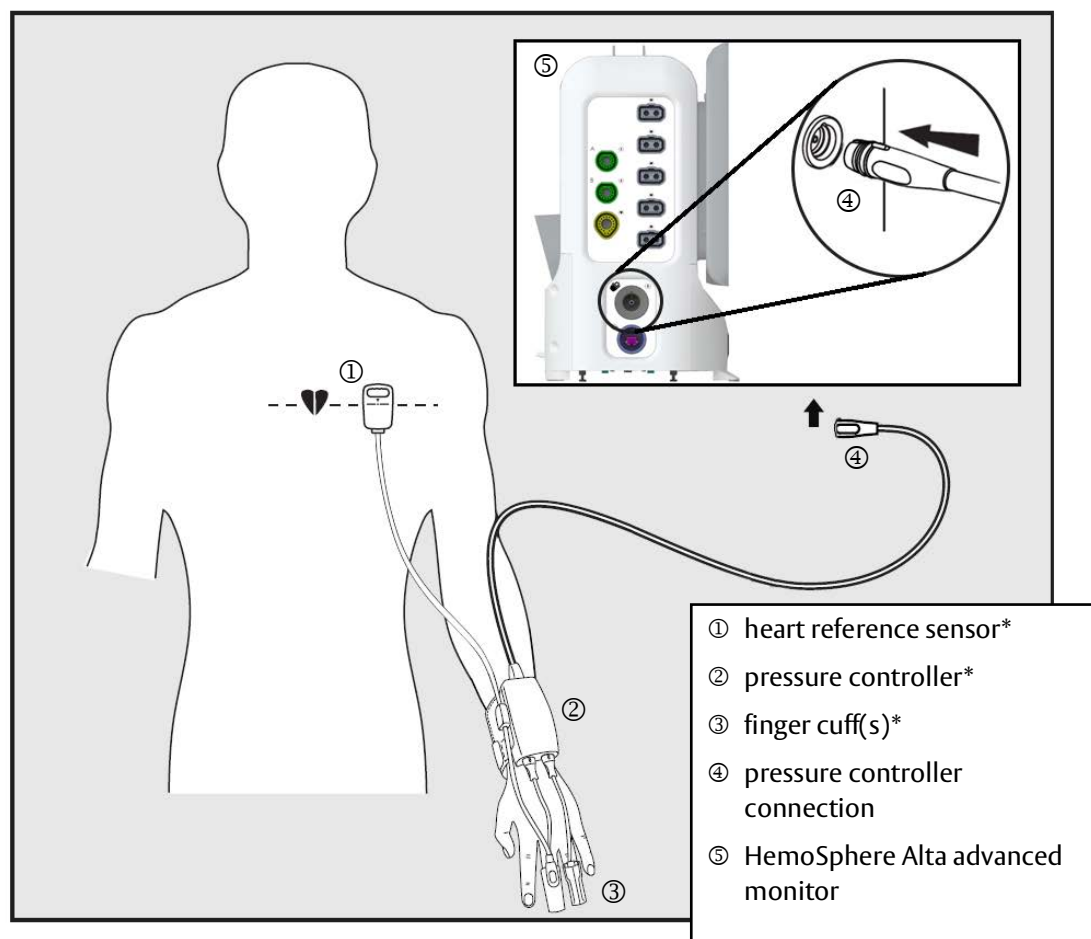

Figure 10-1 HemoSphere non-invasive system connection overview
The HemoSphere Alta ClearSight non-invasive monitoring system is composed of the HemoSphere Alta advanced monitoring platform with connected pressure controller, heart reference sensor, and compatible Edwards finger cuff(s). See system connections in Figure 10-1 on page 173. Accurate measurement of the patient's blood pressure and key hemodynamic parameters is based on the Volume Clamp method, Physiocal method and ClearSight algorithm.
HemoSphere Alta ClearSight technology is compatible with all approved Edwards finger cuffs. See figure 10-1 for an overview of the HemoSphere Alta non-invasive system connections.
NOTE Components indicated by a “*” in figure 10-1 legend are APPLIED PARTS as defined in IEC 60601-1 that in normal use necessarily come into physical contact with the patient for the HemoSphere Alta non-invasive system to perform its function.
- 3 Attach the pressure controller cable to the HemoSphere Alta advanced monitor. (figure 10-1)